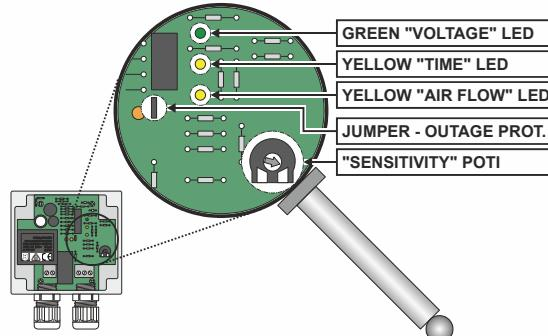

Fig. 3. KSL 24 (cover removed)
- If Electrical Outage Protection (see section "60-Second Electrical Outage Protection") is desired, insert the jumper (see Fig. 3). Otherwise, remove the jumper.
- Next, set the potentiometer (marked "Sensitivity" – see Fig. 3) to the lowest sensitivity (i.e., to the left limit stop).